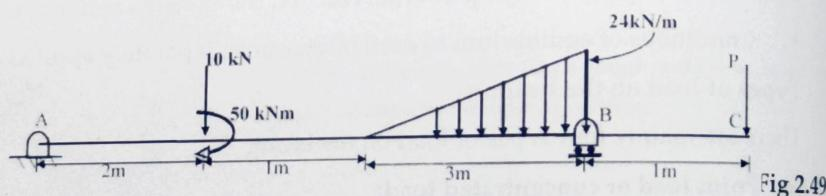

Fig 2.49
- 3) Draw Free body diagram for a given fig 2.49.